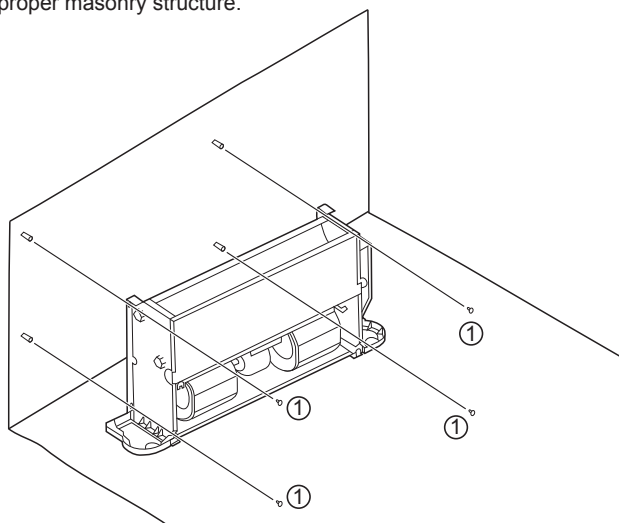

Figure 5-2 Diagram for fixing the unit body
As shown in Figure 5-2, fasten four screws (①) into a proper masonry structure.